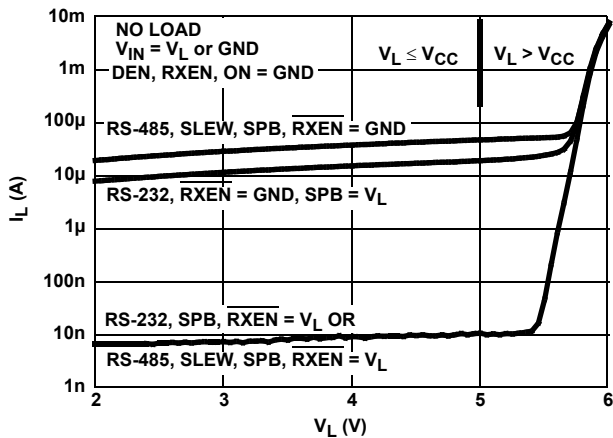

FIGURE 19.  $V_L$  SUPPLY CURRENT vs  $V_L$  VOLTAGE (QFN ONLY)
The VL supply current (IL) is typically less than 60μA, as shown in Figures 19 and 20. All of the DC VL current is due to inputs with internal pull-up resistors (SPB, SLEW,  $\overline{\text{RXEN}}$ ) being driven to the low input state. The worst case IL current occurs when all three of the inputs are low (see Figure 19), due to the IL through the pull-up resistors. IL through an input pull-up resistor is ~20μA, so the IL in Figure 19 drops by about 40μA (at VL = 5V) when the SPB is high and 232 mode disables the SLEW pin pull-up (middle vs top curve). When all three inputs are driven high, IL drops to ~10nA, so to minimize power dissipation drive these inputs high when unneeded (e.g., SPB isn’t used in RS-232 mode, so drive it high).